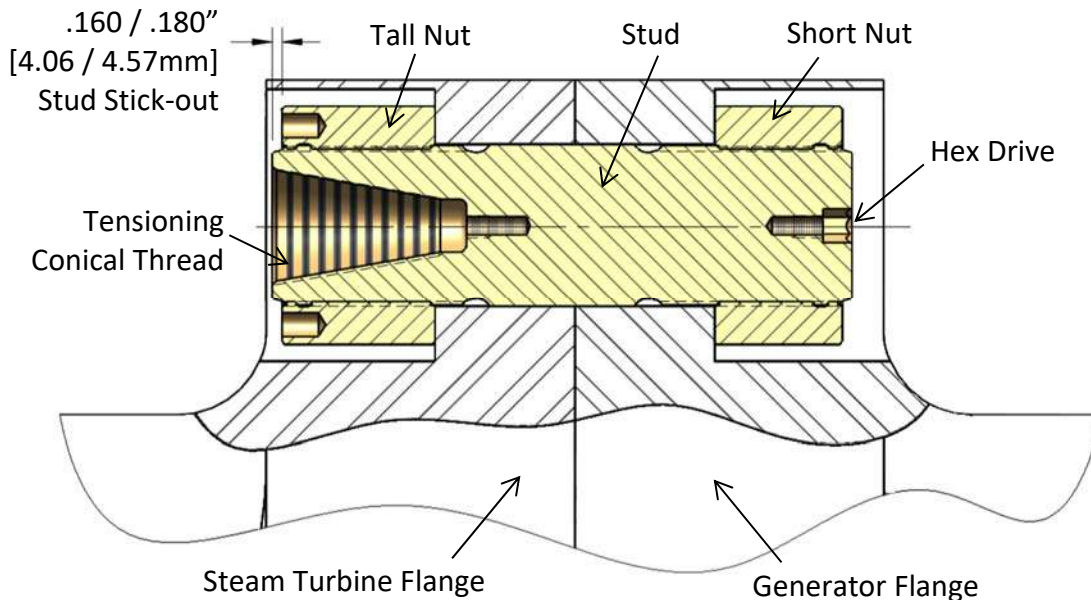

Figure 6A – Cross-section View of Steam Turbine to ELIN 9A5 Generator Bolted Flange Connection
4. Slide the stud and nut assembly into the flange as shown in Figure 6A.